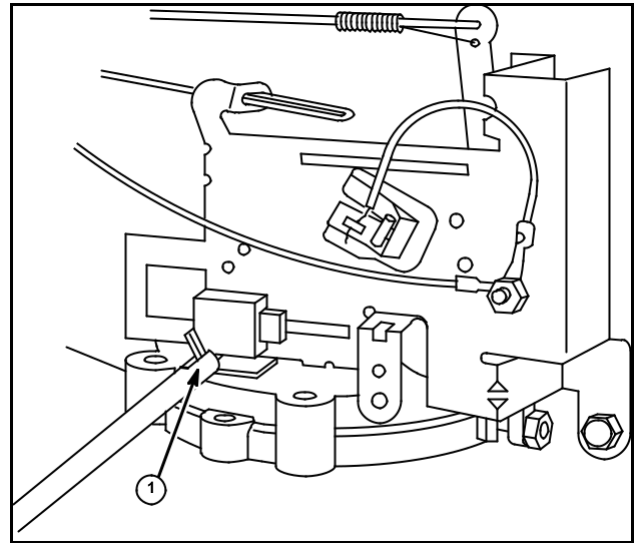
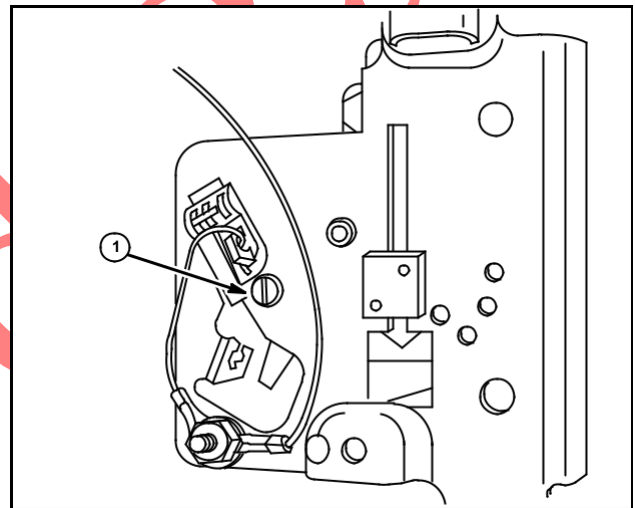

Fig. 62
Fig. 63
5. Set remote control to 1750 RPM and bend tang (1) until it contacts remote control slide, Fig. 62 (Horizontal Slide), or turn screw until it contacts remote control lever, Fig. 63 (Vertical Slide).